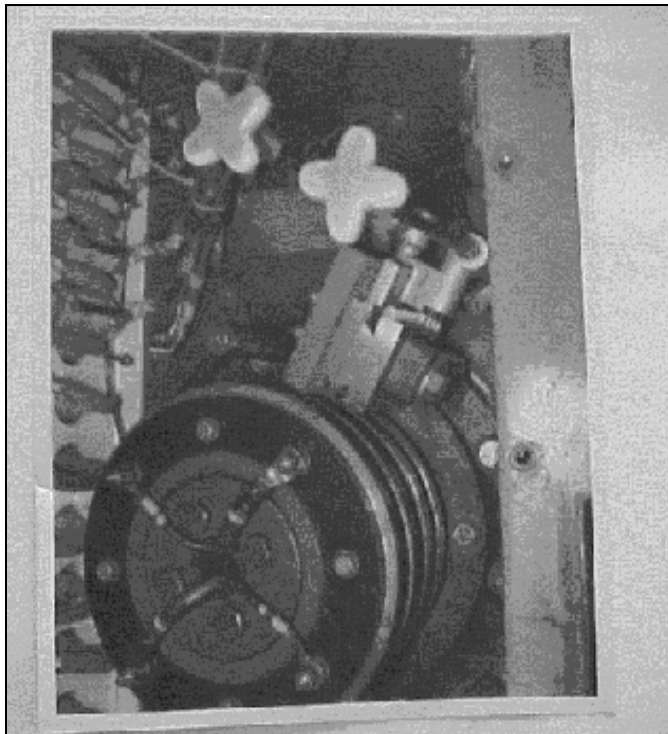

Figure 4 Grinding Equipment Installation
5. Install grinding stones in position on grinder. Ensure there is enough travel to grind the rings. Figure 4 shows the grinding equipment in place.